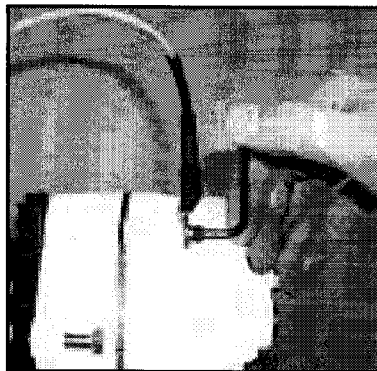

Figure 5 - Mounting temperature sensor mid-case on small case alternator.
MID CASE MOUNT - Large Case Alternator - Remove (1) of (4) 3/16" Allen bolts, install probe, re-secure bolt. See **Figure 5** on following page.